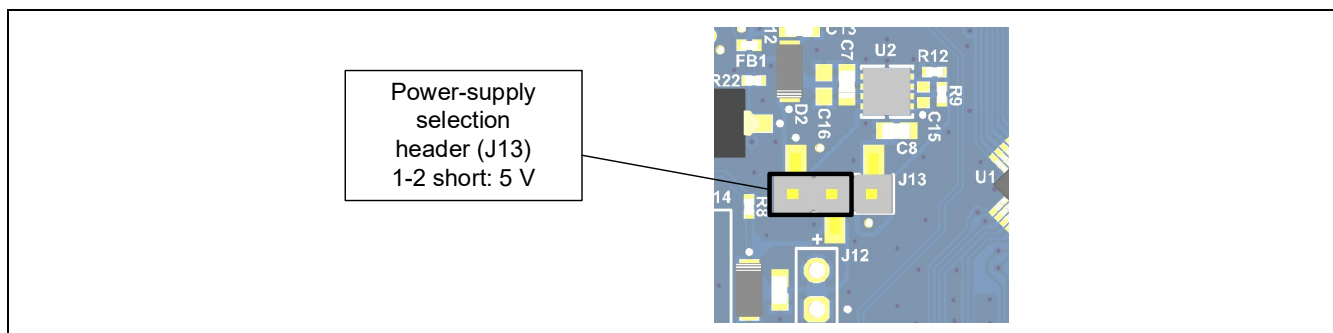

Figure 5-2 Setting of the Header to Select a 5-V Power Supply
- 1-2 of J13 being short-circuit selects a 5-V power supply. This is the default setting as shipped (Figure 5-2).